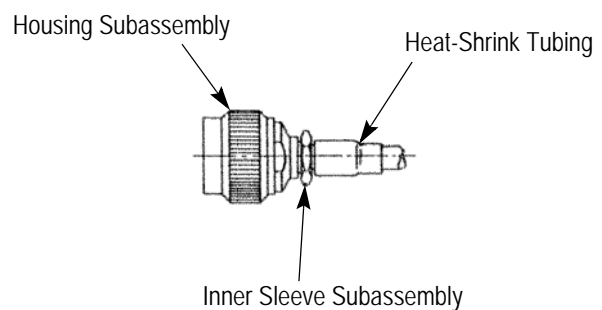

Figure 6
2.4. Completing the Assembly (Figure 6)
3. Position the heat-shrink tubing over the outer sleeve as shown in Figure 6.